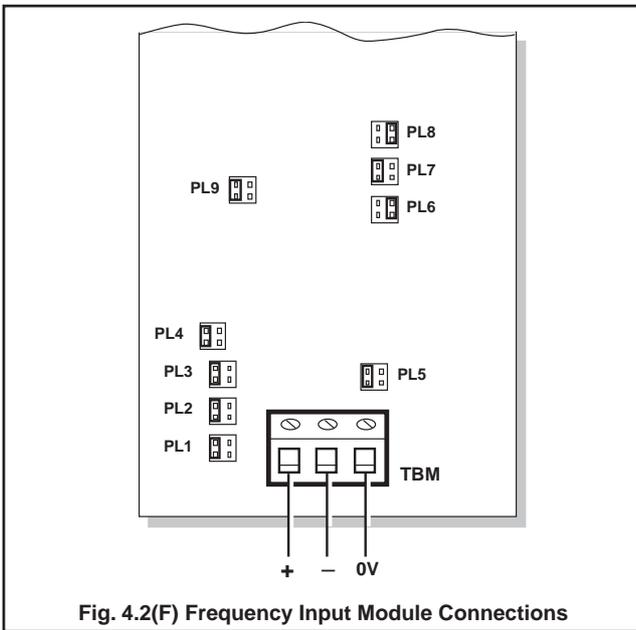

Fig. 4.2(F) Frequency Input Module Connections
Make connections and links as detailed in Fig. 4.2(F) and Table 2(F). The module is for frequency inputs only and Input Type FREQ should be selected – see Section 8.4.
Ensure that the Signal Input links are in the correct positions for the required input type for the channel -see Fig. 4.2 of PX105/0011.